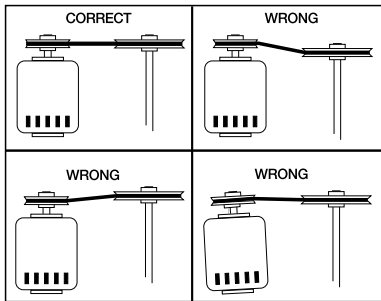

Figure 10
10. If adjustments are made, it is very important to check the pulleys for proper alignment. Misaligned pulleys lead to excessive belt wear vibration, noise and power loss, see figure 10.